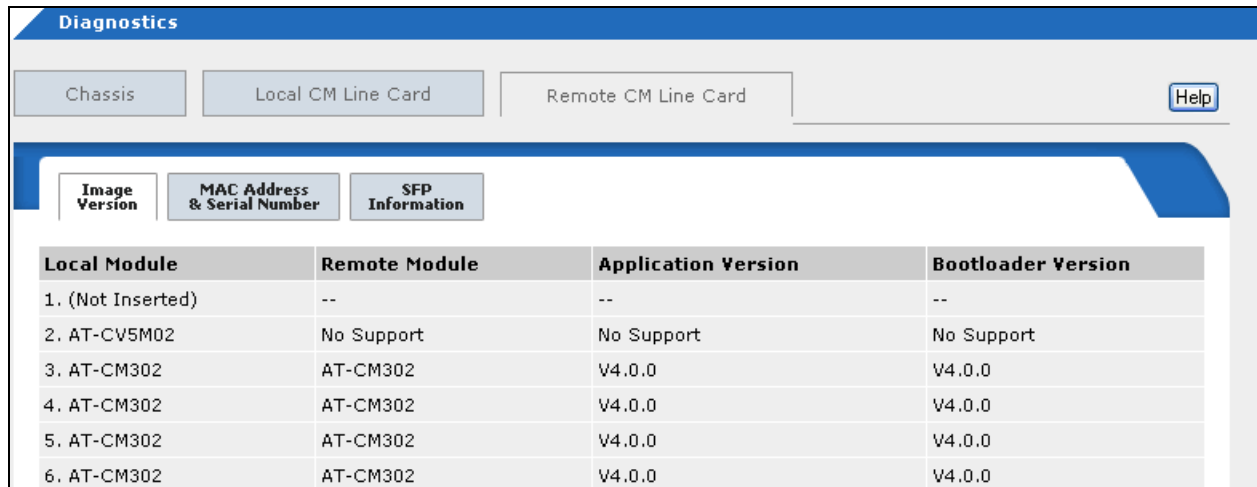

Figure 96. Remote Image Version Page
3. If it is not already selected, select the **Image Version** tab. An example of the tab is shown in Figure 96.